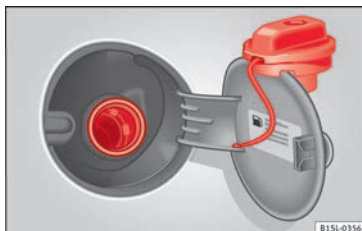

Fig. 39 Open fuel tank flap with tank cap in the holder
- Take out the fuel tank plug by turning it in an anticlockwise direction and rest it on the upper part of the fuel tank flap »» Fig. 39.